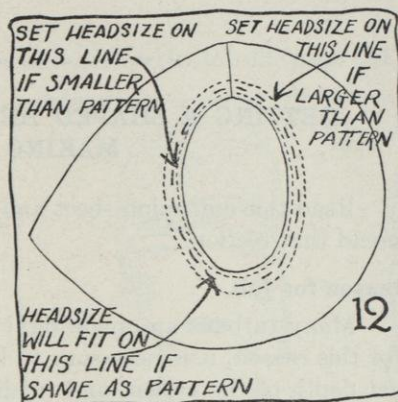

FIG. 12.
- Pin the headsize band in place at direct front, back, and sides (see Figure 5 of Job 8, page 35, and Figure 12 of this job). Be careful to follow *either* Section (a) or Section (b) or Section (c).
- If the headsize band is the same size as the headsize of the pattern, it will set exactly on the basting in the headsize of the brim (see Figure 12, page 219).
- (b) If the headsize band is smaller than the headsize of the pattern, it will set evenly *inside* of the basting in the headsize of the brim (see Figure 12).
- (c) If the headsize band is larger than the headsize of the pattern, it will set evenly *outside* of the basting in the headsize of the brim (see Figure 12).